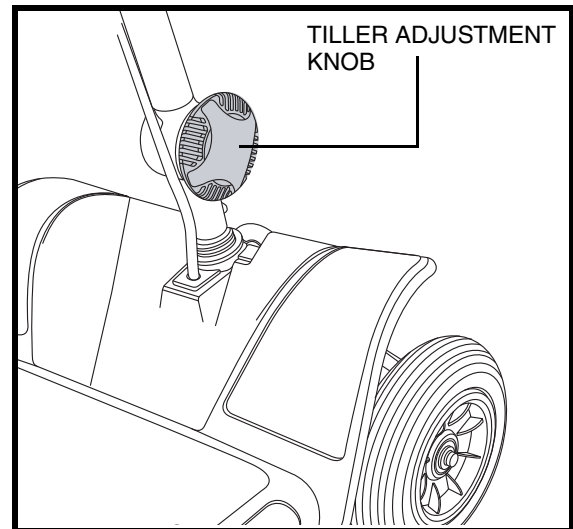

Figure 13. Tiller Adjustment Knob
1. While supporting the tiller, turn the tiller adjustment knob anticlockwise to loosen the tiller. See figure 13.